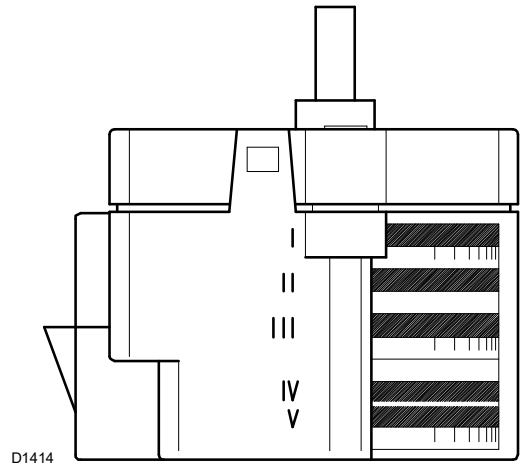

Fig. 22
- Cam I:** Set to 0° (air damper closed in shut-down position). To open partially, increase this setting (Fig. 22).